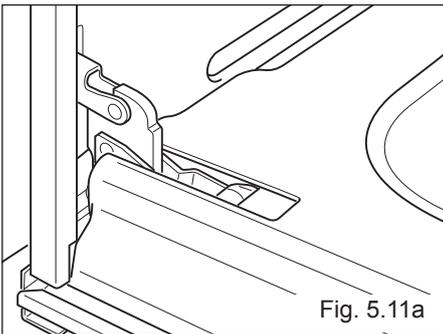

Fig. 5.11a
- Open the door to the full extent (fig. 5.11a).